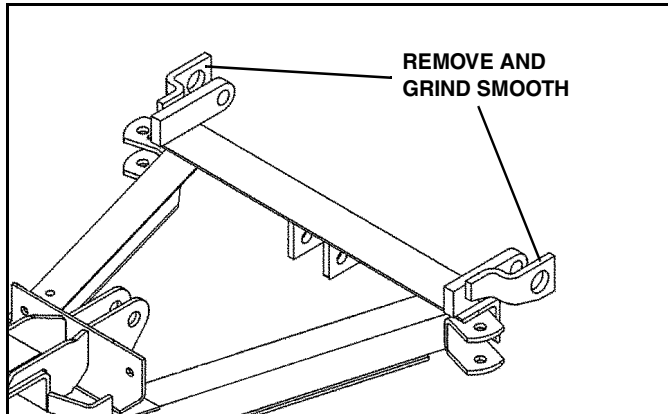

Figure 1-1
4. Cut the light bar brackets off the lugs on the A-frame. Grind smooth. (See Figure 1-1)